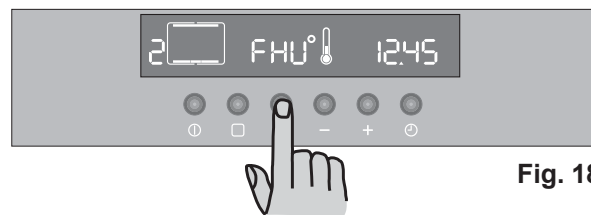

Fig. 18
- 4) Press button **B**. The temperature display will show "FHU" (Fig. 18).